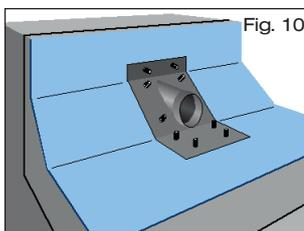

Fig. 10
- 2.3 Unroll the first layer of the **roof sealing sheet** over the scupper drain, and make a cut-out in the region of the fixed flange (Fig. 10).
3.3 Trim surplus length off the discharge pipe with fixed flange appropriately for the circumstances at the site. Apply adequate quantities of LORO-X lubricant to the inside of the sealing element of the sliding flange and the outside of the outlet of the discharge pipe with fixed flange. Insert the discharge pipe with fixed flange into the sliding flange as far as its fitted position (Fig. 10). Close up any holes that have been made in the thermal insulation. Apply adequate quantities of thermal insulation to the discharge pipe in the area of the wall, and fix the roof drain.